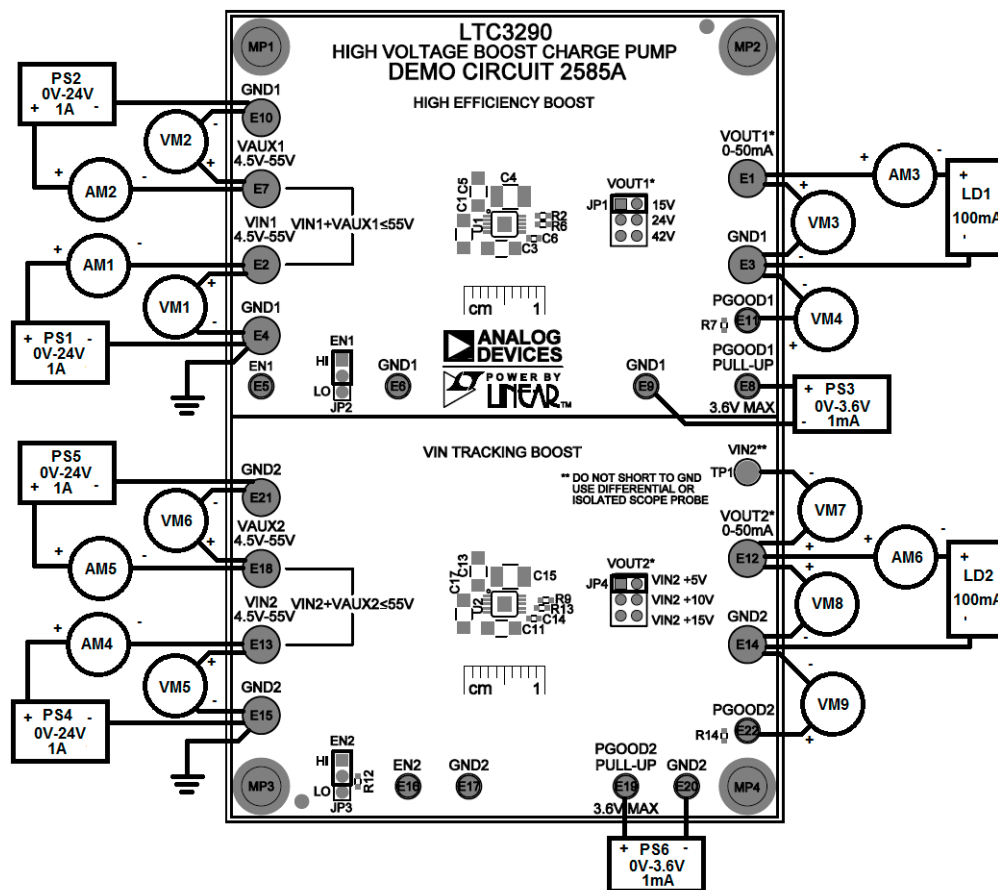

Figure 1. Proper Measurement Equipment Setup for DC2585A
Refer to Figure 1 for the proper measurement equipment setup and follow the procedure below.
5. If it is desired to observe PGOOD1, set PS3 to 3.3V as shown in Figure 1 and observe PGOOD1 with a DVM, VM4 in Figure 1.
13. If it is desired to observe PGOOD2, set PS6 to 3.3V as shown in Figure 1 and observe PGOOD2 with a DVM, VM9 in Figure 1.